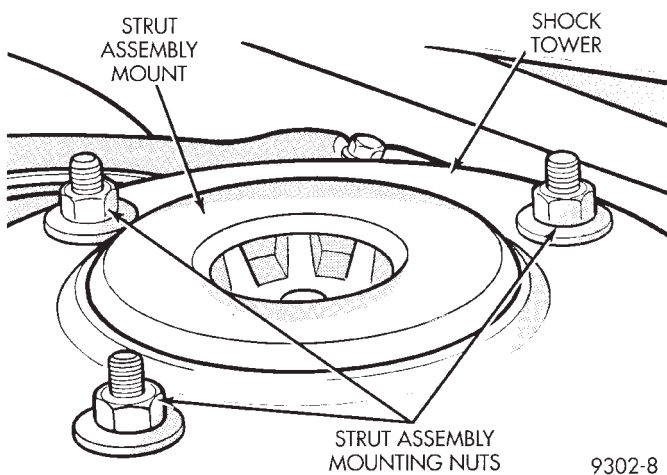

Fig. 6 Strut Assembly Mounting To Shock Tower
(8) Remove the 3 strut assembly upper mount to shock tower mounting nut and washer assemblies (Fig. 6).
(1) Install front strut assembly into shock tower. Install the 3 strut assembly upper mount to shock tower attaching nuts (Fig. 6). Torque the 3 strut mount to shock tower attaching nuts (Fig. 6) to 33 N•m (25 ft. lbs.) torque.
(2) Position steering knuckle neck into strut assembly.